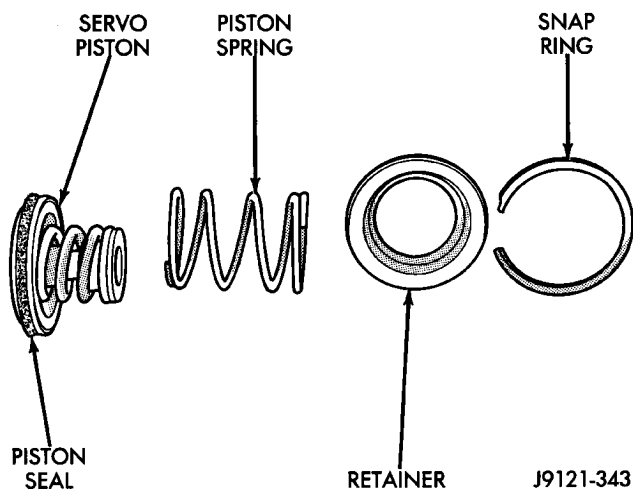

Fig. 107 Rear Servo Components
(1) Install rear servo piston, spring and retainer (Fig. 107). Install spring on top of servo piston and install retainer on top of spring.